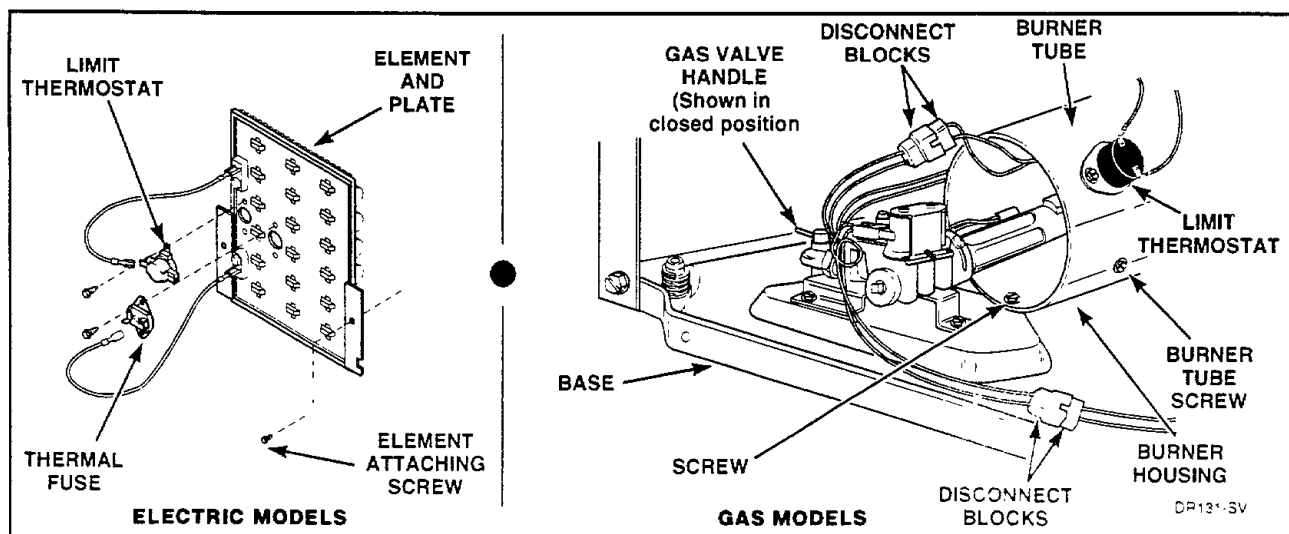

Figure 28
- (2) Gently lower the access panel to disengage guide lugs from bottom edge of front panel.
- (3) Close gas shut-off valve, disconnect igniter wires at disconnect blocks, sensor wires from flame sensor terminals, and wires from gas valve coils at the quick disconnect blocks, *Figure 28*.
- Disconnect igniter wires at disconnect blocks, sensor wires from flame sensor terminals, and wires from gas valve coils at quick disconnect blocks, *Figure 28*.
- Remove screw from right side of burner housing holding burner tube in place, *Figure 28*.
- Remove screw holding front of burner housing to dryer base and remove housing out through front of dryer, *Figure 28*.
- Disconnect wires and remove screws holding limit thermostat to burner housing or element plate, *Figure 28*.
- Remove two screws holding element and plate to heater box and pull element down and away from heater box, *Figure 28*.
- Disconnect wires from element and plate, *Figure 28*.
- Remove screws holding thermostat and thermal fuse to element plate, *Figure 28*.